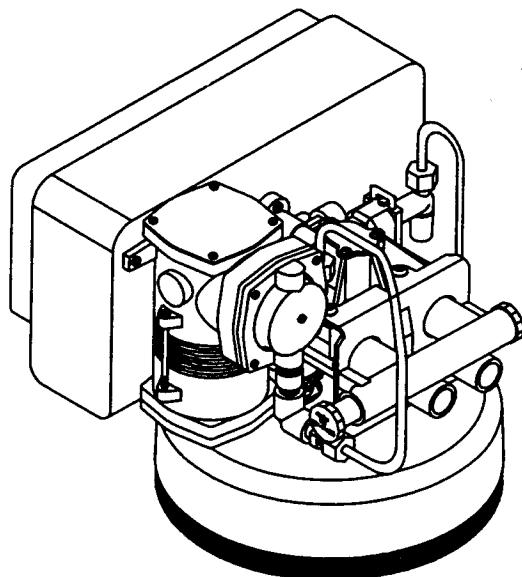

FIG. 15
- Install the check valve into the threaded opening at the bottom of the compressor and reconnect the tubing. (Fig. 15).